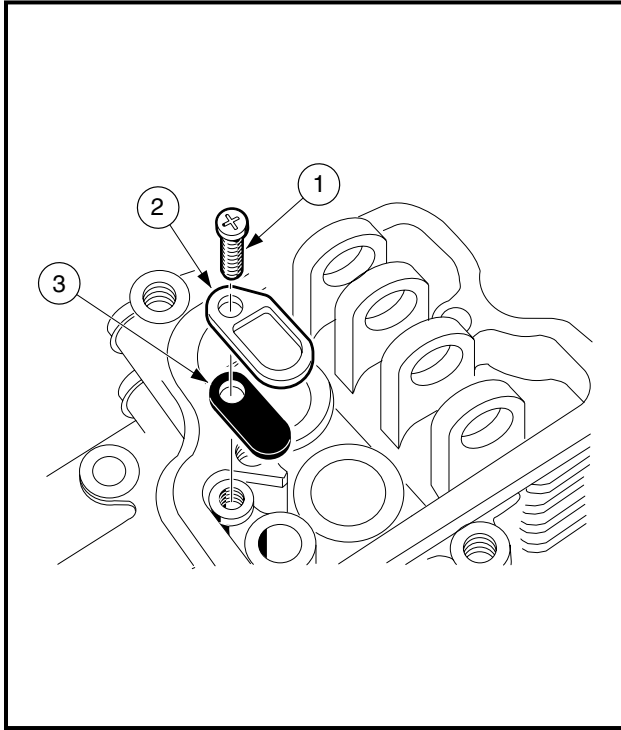

Figure 3-11 Reed Valve
1. Unscrew the mounting screw (1) and remove the back plate (2) and reed valve (3) (**Figure 3-11, Page 3-9**). For installation, see **Breather Valve Installation on page 3-18**.